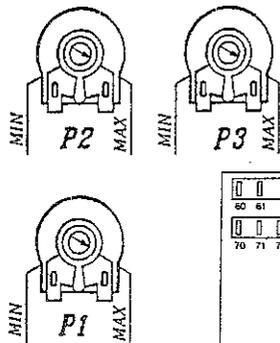

Fig. 24
d. Adjust the potentiometer 'P1' on the PCB (fig. 24) in the control panel until the required burner pressure is obtained (Anticlockwise to reduce the pressure).